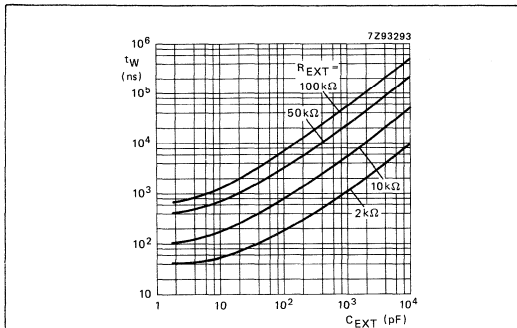

Fig. 9 Typical output pulse width as a function of the external capacitor values at $V_{CC} = 5.0 \text{ V}$ and $T_{\text{amb}} = 25 \text{ }^\circ\text{C}$.
1. For other R_{EXT} and C_{EXT} combinations see Fig. 9.